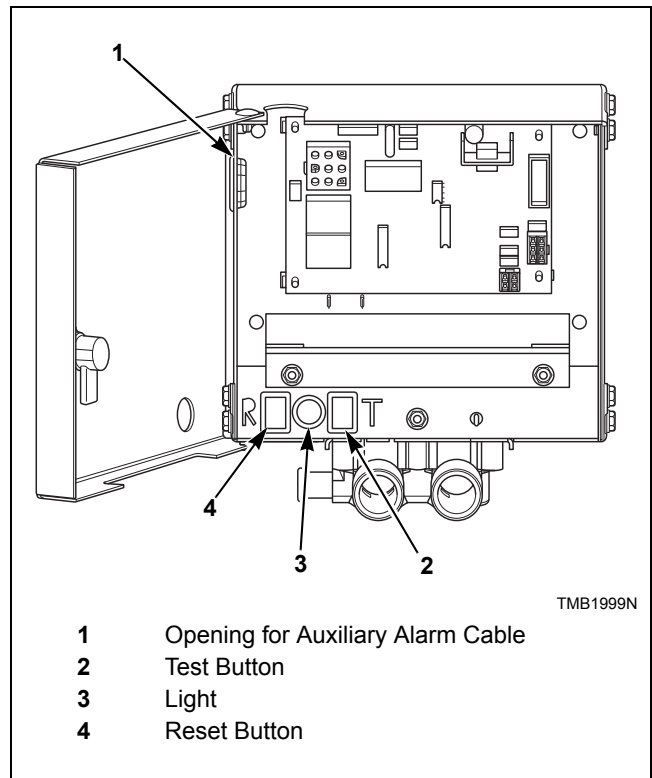
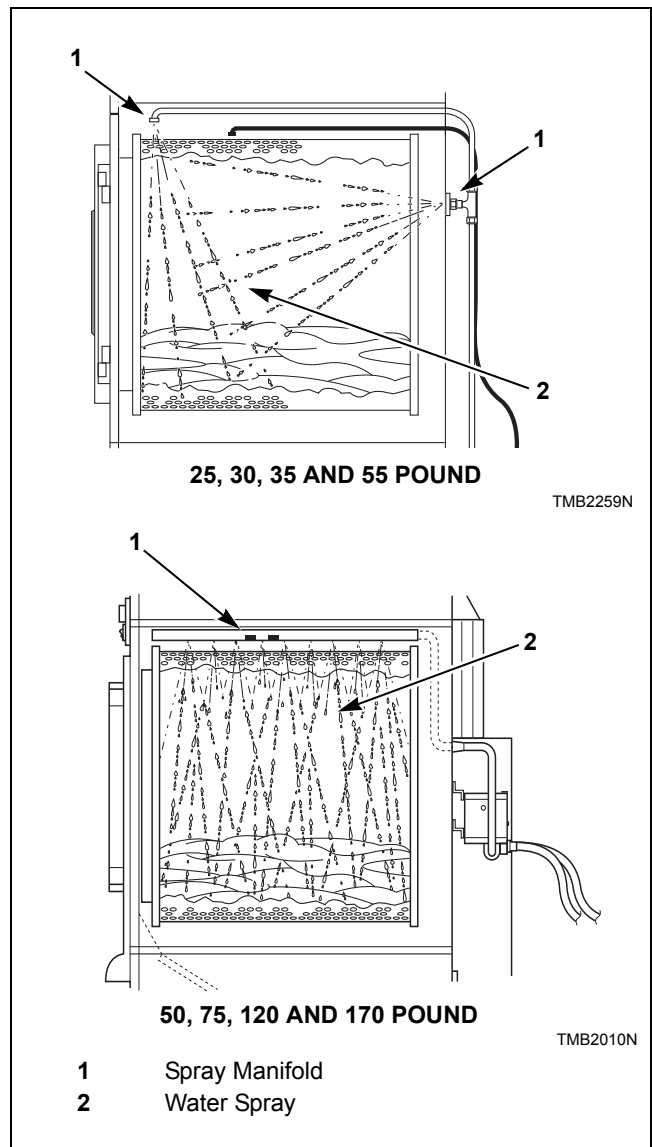

Figure 8
Figure 9
6. Press and hold the test button, verify the light is on, this should take approximately five seconds. Refer to *Figure 8*. After a one-second pause water should begin to spray into the cylinder.
7. After 15 seconds of water spray, press and hold the reset button until water spray is off and light is off. This should take approximately one second. Refer to *Figure 8* and *Figure 9*.
A water discharge or system fault is indicated when the fire suppression system control box light is on. Refer to *Figure 8*.